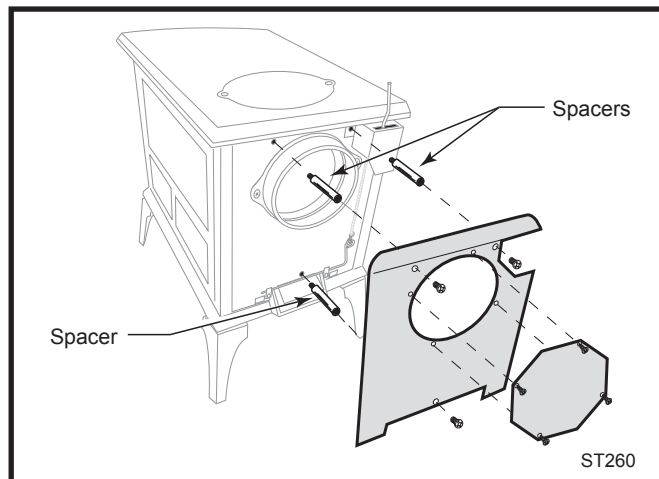

Fig. 16 Install the rear heat shield.
1. Remove the three phillips head screws from the back of the stove. The upper right screw also serves to secure the thermostat cover to the stove. (Fig. 16)